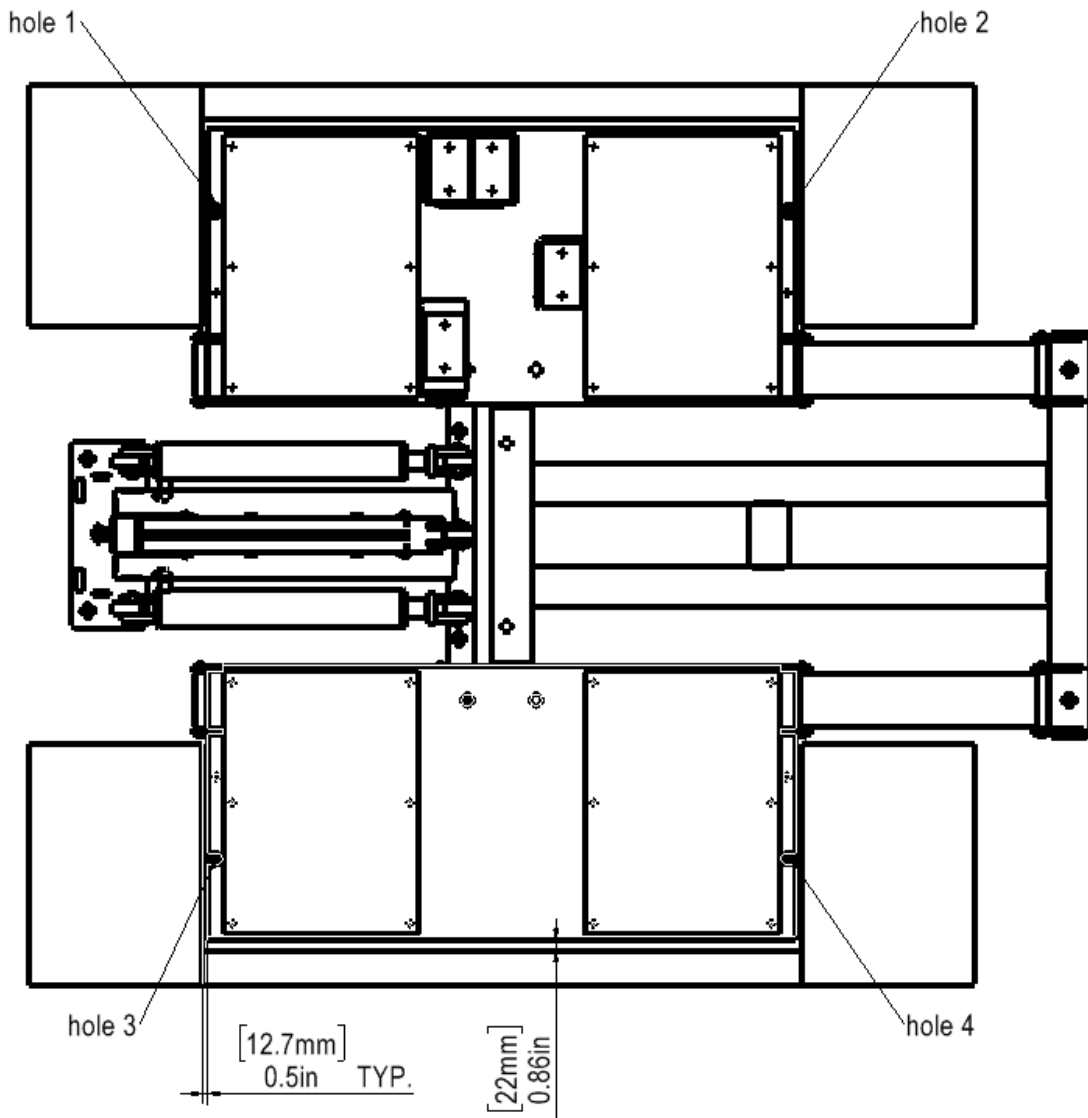

Fig. 7
A. The ramps must be positioned as depicted in Fig. 7, ensuring a minimum clearance of 1/2 inch (13mm) between the ramp and the front edge of the pad opposite the cylinders, and a clearance of 7/8 inch (22mm) between the outside surfaces of the pad and the inside surface of the ramps. **DO NOT DRILL ANCHOR HOLES AT THIS TIME!**
Utilize a 5/8-inch (or 16mm) concrete drill bit to drill holes and install (4) anchors to secure the ramps (refer to Fig. 7).